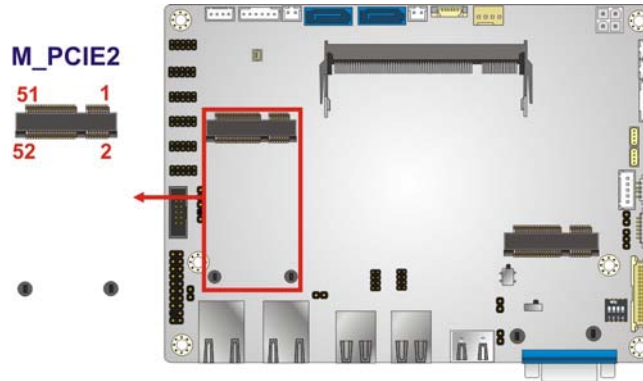

Figure 3-17: PCIe Mini Card Slot Location
- CN Location: See **Figure 3-17**